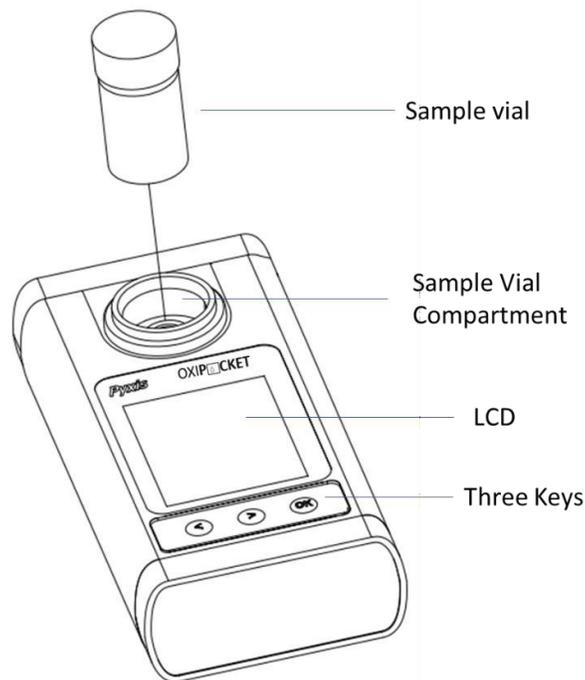

Figure 2.
The SP-200 has three control keys, as shown in Figure 2. The left (◀), right (▶), and ok (OK) keys are used to launch actions indicated on the LCD display directly above the keys. The labels above the keys indicate the function associated with each key and functions can be changed in different operation modes.